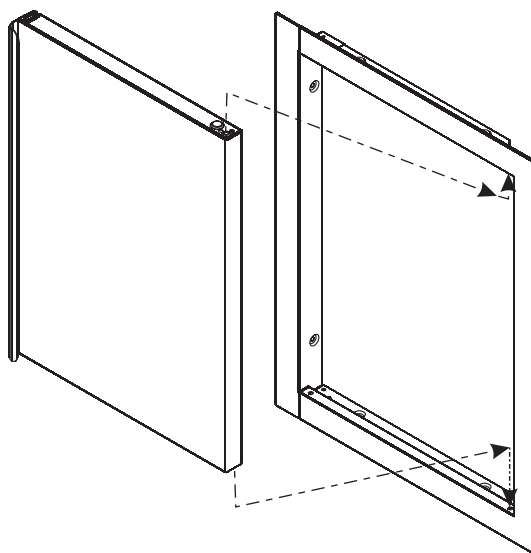

Figure 4
3. Secure the BDA Door to the door frame by inserting the spring loaded pin in the bottom frame hole. Locate the upper hole in the frame then push on the spring loaded pin on the door and insert the door in the frame. See Figure 4. **Make sure the Door is Aligned and Secured properly by opening and closing door.**
3. Make sure BDA Double Door opening dimensions match those in Figure 7. Place the Frame into the opening and check for proper hole alignment. Secure the Frame to the enclosure with 2 screws. See Figure 7. Secure the Doors to the door frame by inserting the spring loaded pins in the bottom frame holes. Locate the upper hole in the BDA frame and push on the spring loaded pin on the door and insert it into the frame. See Figure 4. **Make sure the Door is Aligned and Secured properly by opening and closing door.**